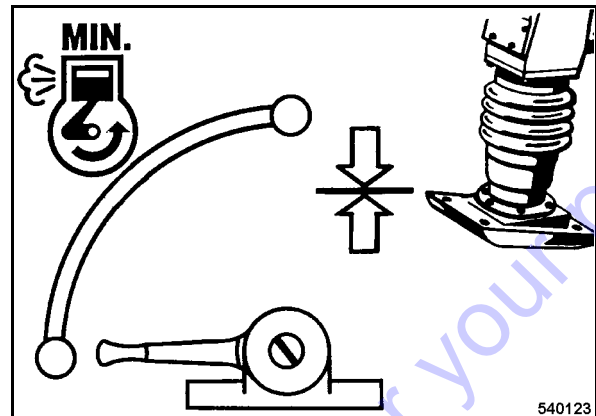

Fig. 57
- To read the idle speed set the throttle lever to position MIN (Fig. 57).